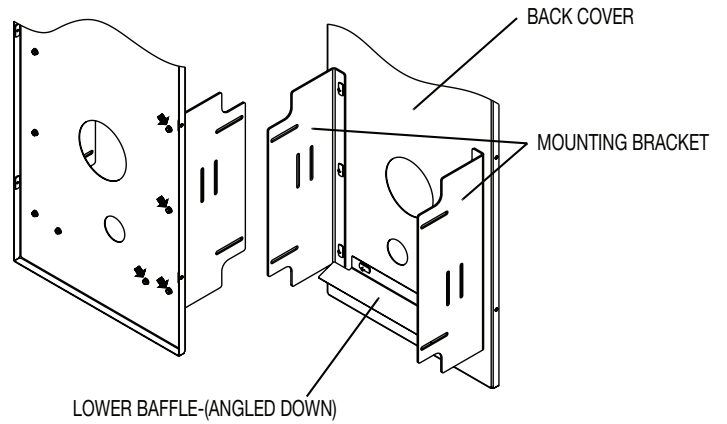

Figure 3 - Assemble the mounting bracket & lower baffle
- Assemble the mounting brackets & lower baffle to the back cover as shown in Figure 3. Insert and tighten the three screws on each mounting bracket & two screws on the lower baffle.